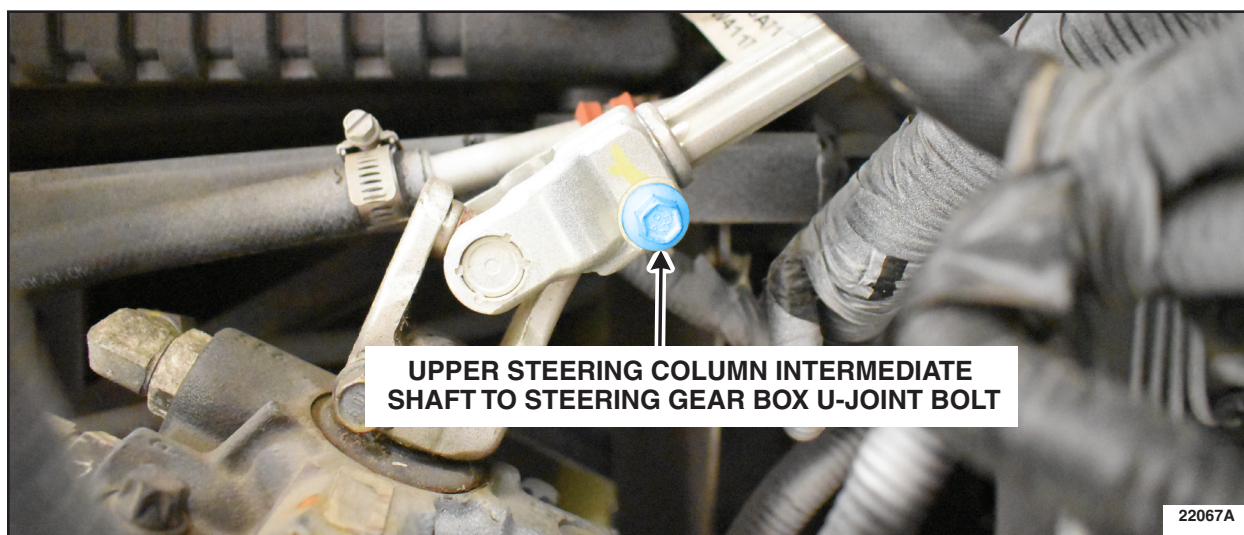

FIGURE 1
1. Position steering wheel to gain access to both steering column intermediate shaft to steering gear box U-joint bolts. See Figure 1.
2. Is the upper steering column intermediate shaft to steering gear box U-joint bolt installed on the vehicle? See Figure 1.